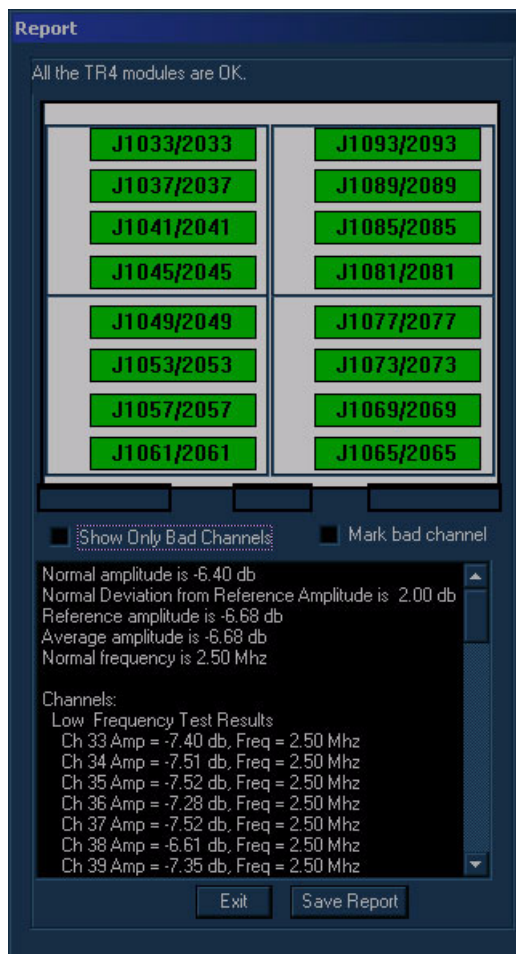

Figure 7-29 Report Dialog Box - Normal Channels Test Low Frequency
- 5) Trackball to the **Low Freq Test** button and press **Select**. The normal channels diagnostic test is performed in low frequency mode, and the test results are displayed in the *Report* dialog box, as shown in Figure 7-29 on page 7-53: